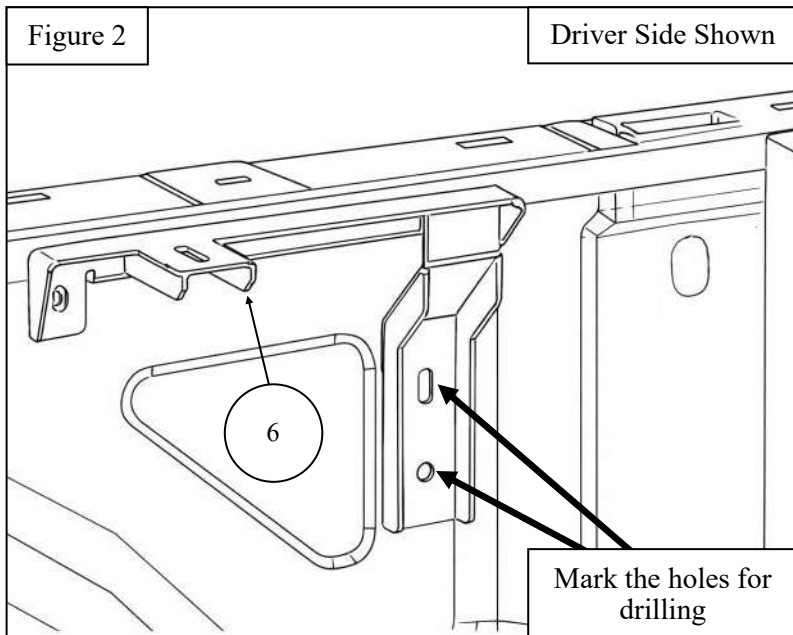

Figure 3
4. Loosely install the Drivers Front Mounting Bracket to the bed wall using 2 sets of M8 hardware (**Items 31-33**), and use a Threaded Nut Plate and a M6 Long Torx Combo Bolt (**Items 11 and 28**) to loosely attach the bracket to the lip of the bed wall. See **Figures 3 and 4**.